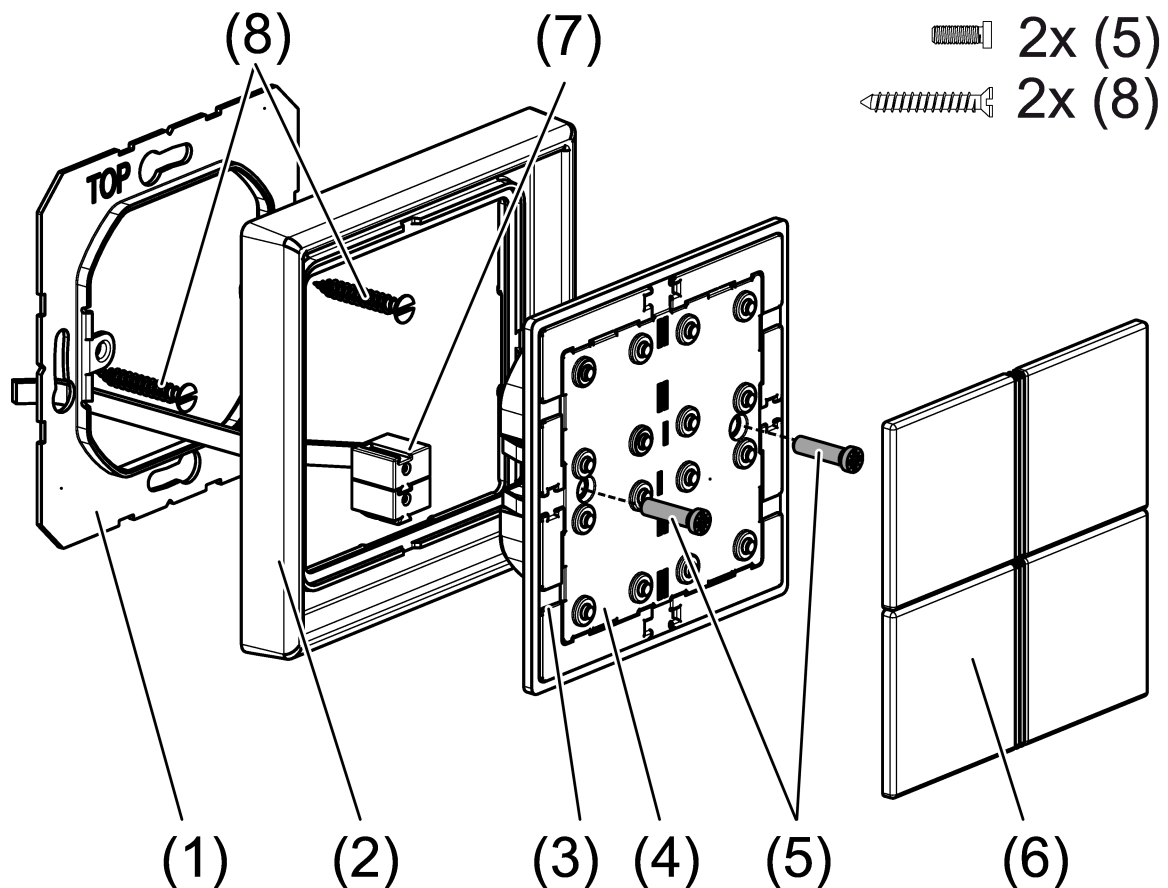

Figure 5: Mounting the push-button sensor module
- With the adapter frame (3) in the correct orientation, snap it from the front onto the push-button sensor module (4) (see figure 5). Note the marking **TOP**.